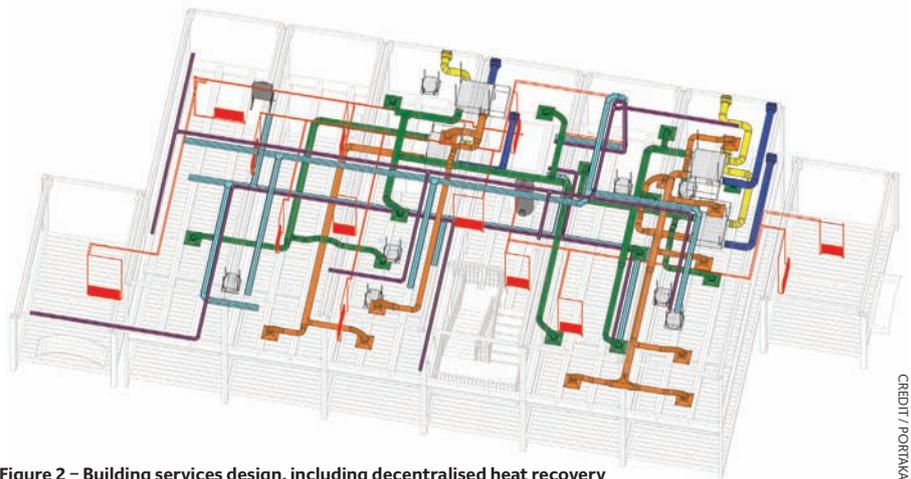

Figure 2 – Building services design, including decentralised heat recovery units (HRUs), heat-pump air-to-LTHW system and DX cooling
Controls are often cited as a key reason for buildings not performing as designed.⁴ The studied building has a very simple system, with a central controller for the LTHW heating system, and local controls for direct expansion (DX) systems. Cooling systems are to be coupled with ventilation to make the best use of free cooling, and systems are specified so that simultaneous heating and cooling of the same space cannot occur. (See Figure 2, building services design).